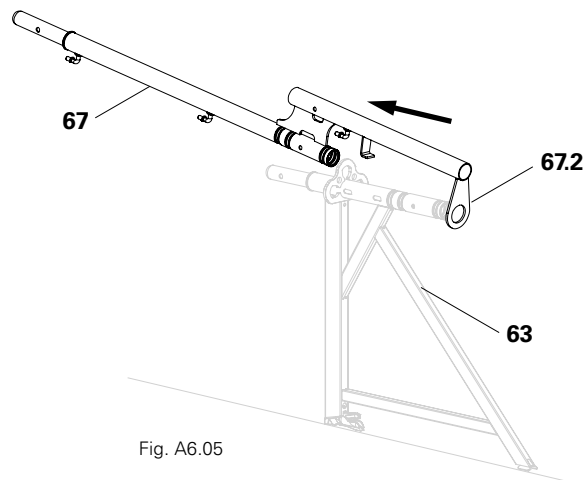

Fig. A6.05
1. Slide the loop (67.2) of the Protection Panel Post EPS (67) onto the lower tube end of the console bracket (63). (Fig. A6.05)